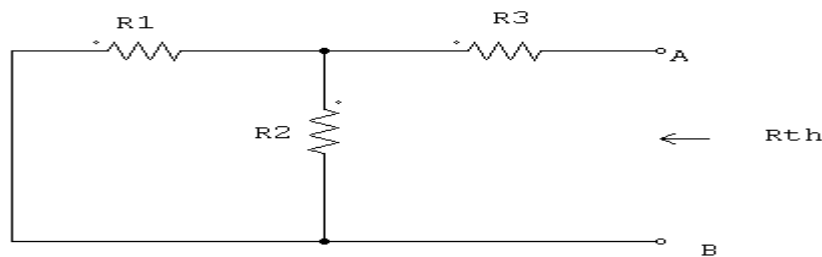

Fig.1.45
Step 1: Find Thevenin's equivalent resistance R_{th} for the given circuit. To find R_{th} open the load resistance and replace the voltage source by its internal resistance (or) replace by short if its internal resistance is zero. Circuit is redrawn as in Fig.1.45 to find R_{th} .